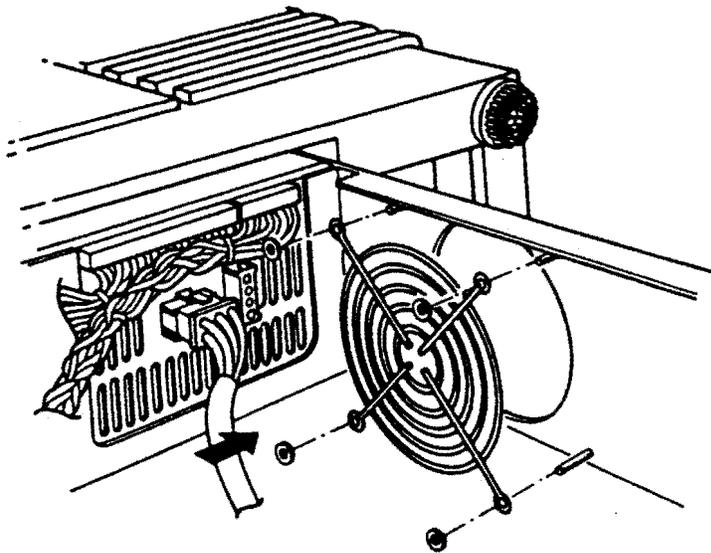

Figure 4-29: Front Fan Installation
3. Place the guard over the screws, with the circular wires of the guard against the chassis (Figure 4-29).